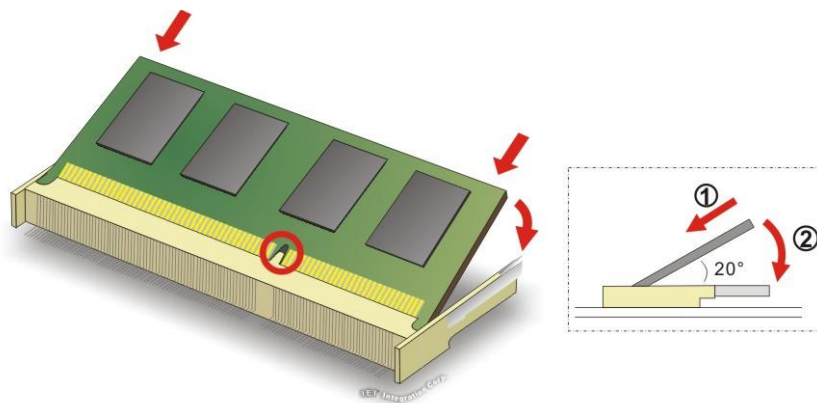

Figure 4-1: SO-DIMM Installation
To install an SO-DIMM, please follow the steps below and refer to **Figure 4-1**.
- Step 3:** Insert the **SO-DIMM**. Push the memory in at a 20° angle. (See **Figure 4-1**)
Step 4: Seat the SO-DIMM. Gently push downwards and the arms clip into place. (See Figure 4-1)